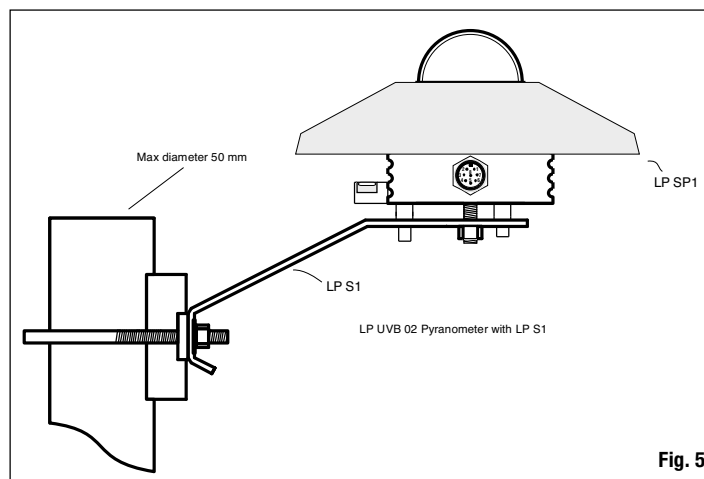

Fig. 5
- The support LP S1 (figure 5), supplied on request as an accessory, allows easy installation of the radiometer on a mast. The maximum diameter of the pole to which the media can be set is 50 mm. The installer must take care that the height of the mast does not exceed the level of the radiometer, not to introduce measurement errors caused by reflections and shadows caused by the pole. To secure the probe to the support bracket remove the screen by removing the three screws, attach the probe and once the installation is complete, refit the white screen.